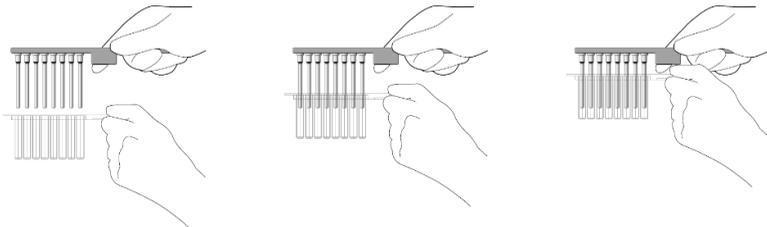

Figure 15. Attaching the rod cover.
6. While holding the rod cover in column 1, place the IndiMag Handheld into the rod cover thus covering the eight magnetic rods of the IndiMag Handheld as illustrated in Figure 15.